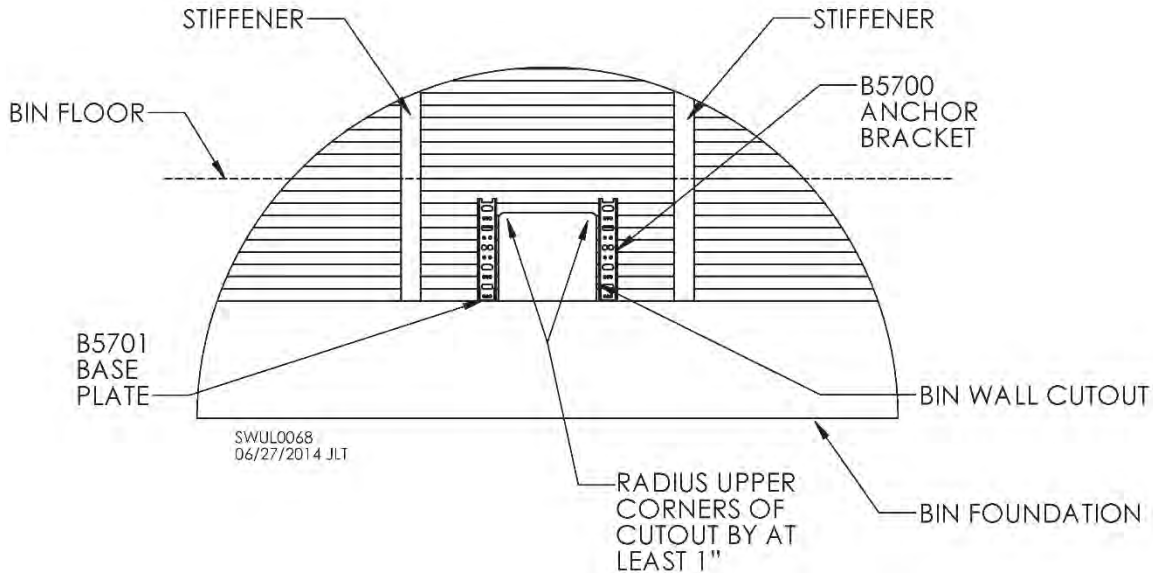

Fig. 21 – 20" cutout reinforced by 22" anchor brackets (B5700) and base plates (B5701)
Bin sidewall should be reinforced around any cutout wider than 13" (e.g., conveyors). Use 22" anchor brackets or similar supports for cutouts up to 30" wide. See Fig. 21. Attach a base plate (B5701) to each 22" anchor bracket using two (2) 3/8 x 1" bolts and two (2) 3/8" flange nuts. Attach 22" anchor brackets to sidewall using 3/8" bolts.